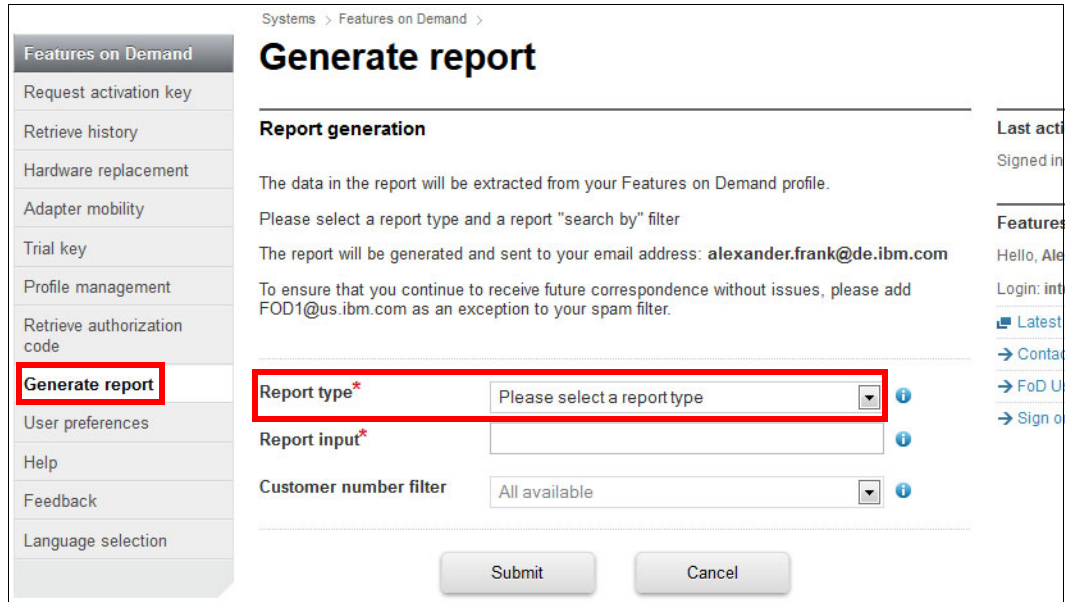

Figure 2-50 Selecting Generate report and a Report type
1. Select **Generate report** from the left navigation pane, as shown in Figure 2-50.
2. Select a report type from the Report type drop-down menu, as shown in Figure 2-50.